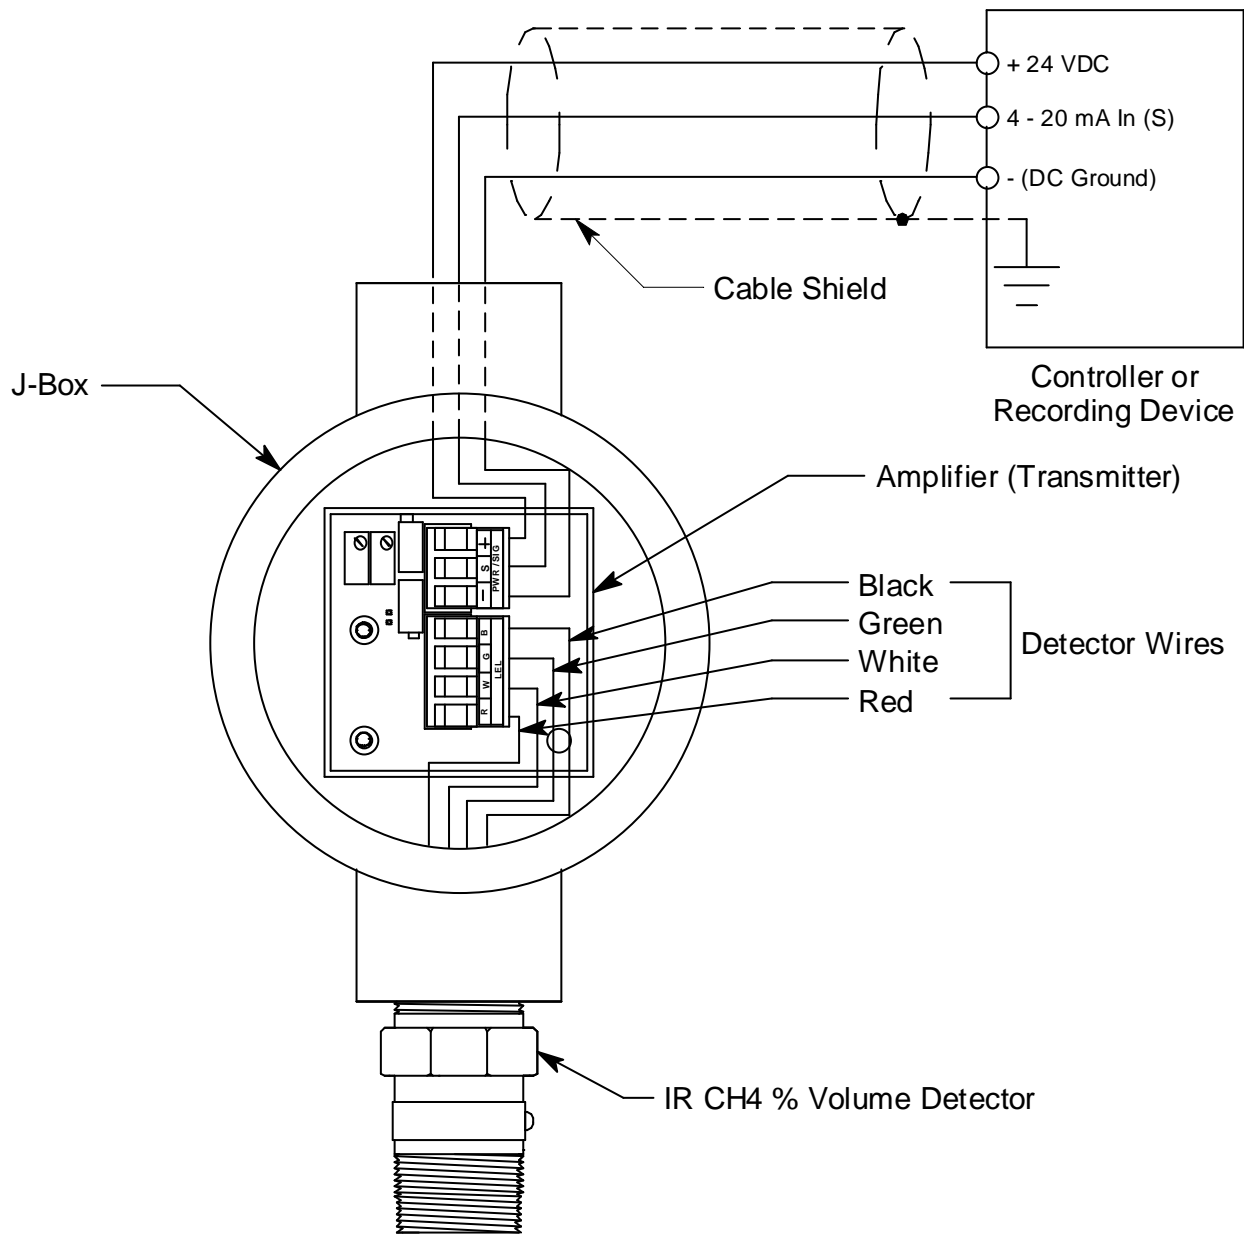

Figure 3: Wiring the Methane Transmitter to a Controller
4. The detector leads are factory wired. Verify that the detector leads are wired to the amplifier's detector terminal strip as shown in Figure 3.
7. Pull out the controller terminal strip, and connect the three wires to the terminal strip as follows (see Figure 3).
11. Connect the wires to the applicable detector/transmitter terminal strip at the controller as shown in Figure 3.
8. Connect the detector leads to the detector terminal strip as shown in Table 3 below and Figure 3 on page 6 of this manual.